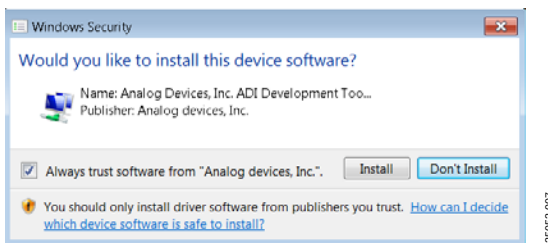
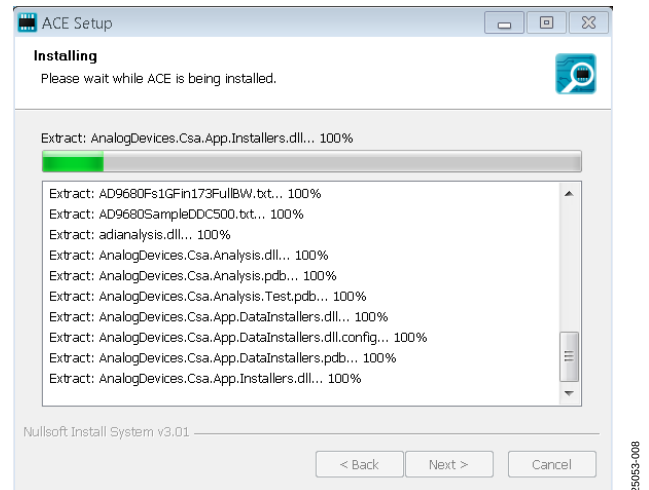

Figure 7. **Windows Security** Window
Figure 8. **Installation in Progress**
8. The **Windows Security** window opens (see Figure 7). Click **Install**. Figure 8 shows the installation in progress. No action is required.